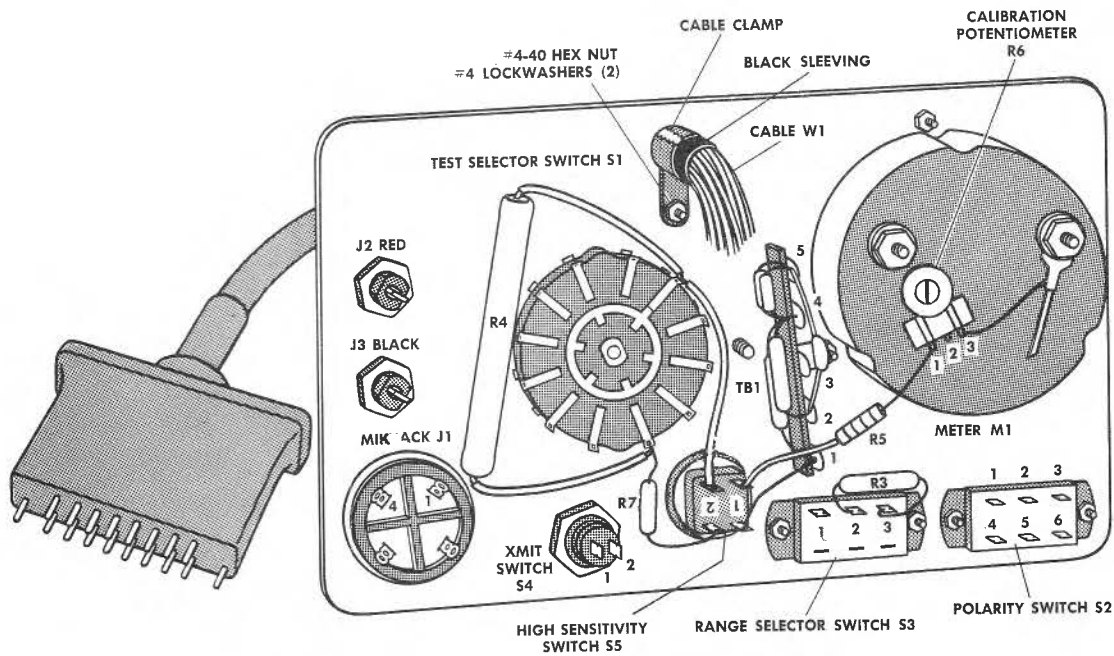

Figure 3 - Front Panel Wiring
#### Assembly of Metering Cable W1 (See Figure 3)
☐ Connect the other white-black lead to terminal 2 (NS) on XMTR switch S4 after the switch is installed as directed in the Front Panel Assembly. (See Figure 3).
Connect the remaining wires from test cable W1 to Mike Jack J1 as shown in the following chart (See Figure 3).
Final Connections (See Figure 3)